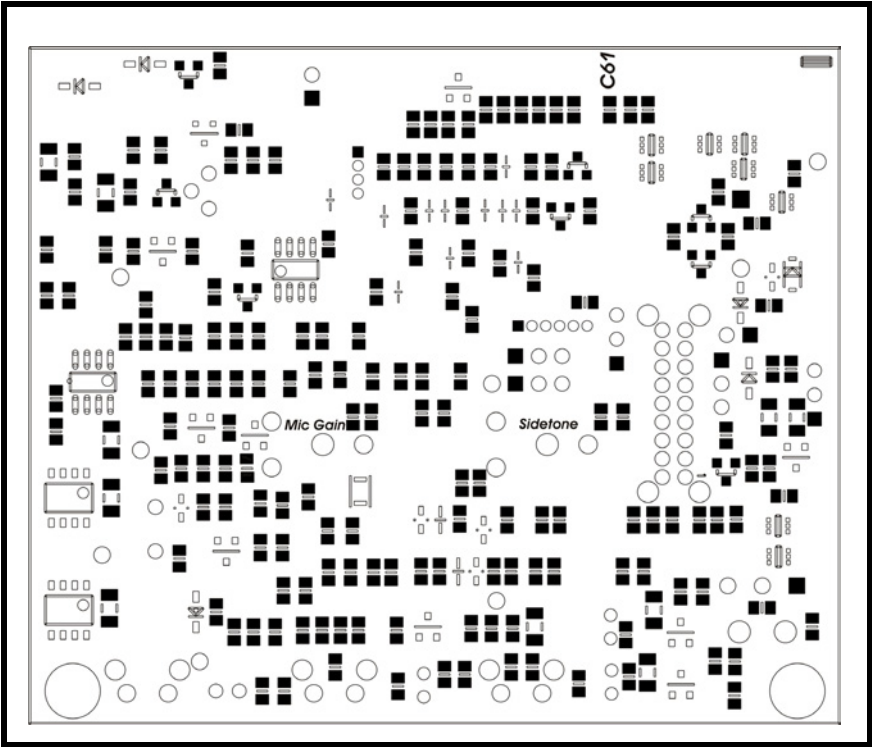

FIGURE 3. *Printed Circuit Board*
2. Refer to Figure 3 and locate C61 on the underside of the printed circuit board.